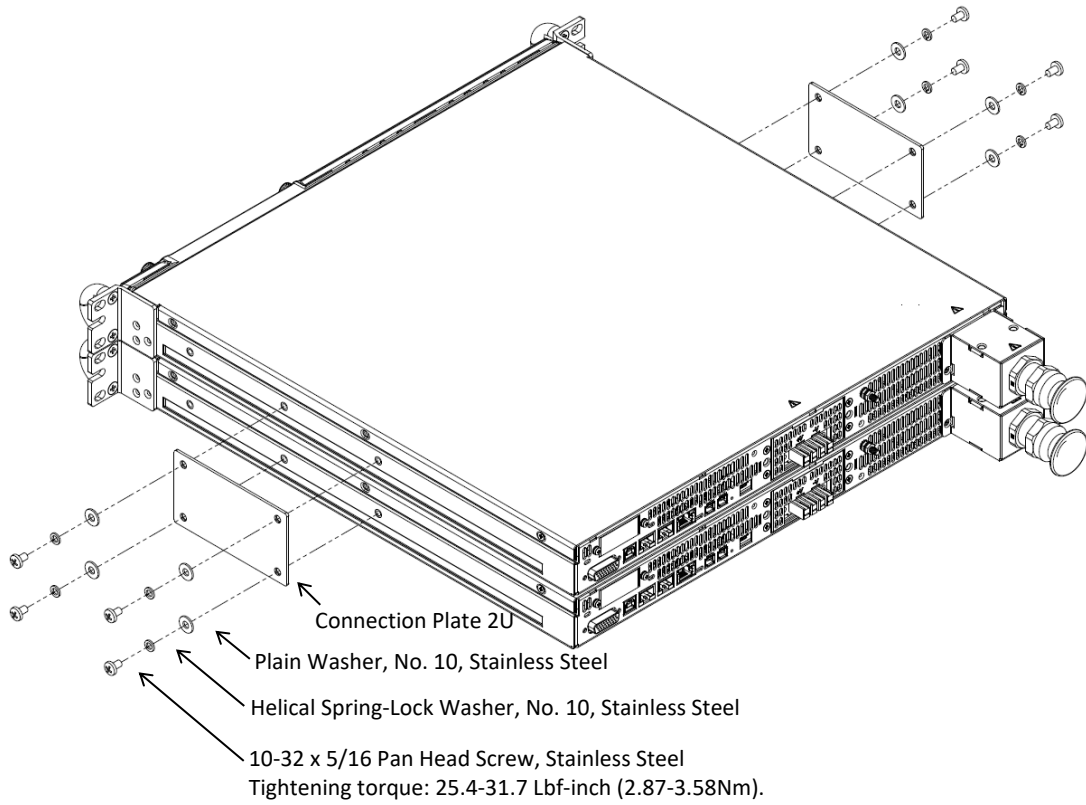

Figure 23: Two 150V-600V Units Connection Plates 2U Assembly
1. Attach connection plates, one on each side of the power supplies, using eight pan head screws, eight helical spring-lock washers and eight plain washers as illustrated in Figure 23.